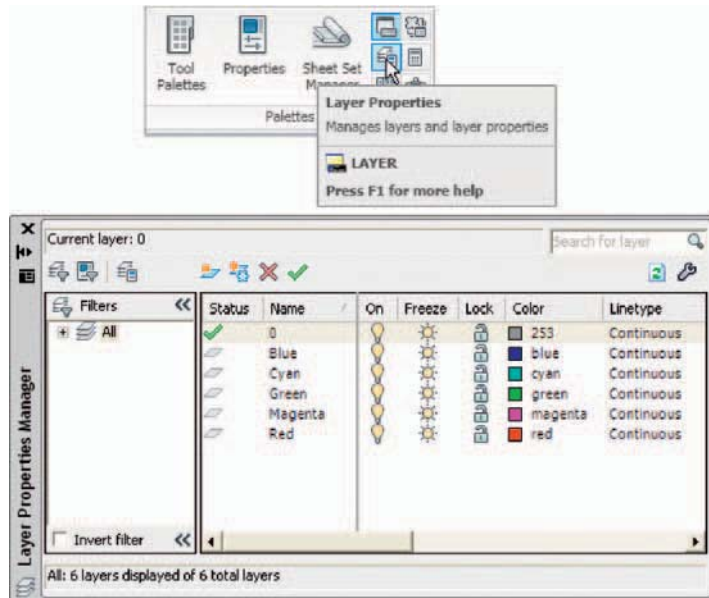

Fig. 15.5 Set up five new layers
8. Set up five layers of different colours. In my template these have been named after the colours (Fig. 15.5).